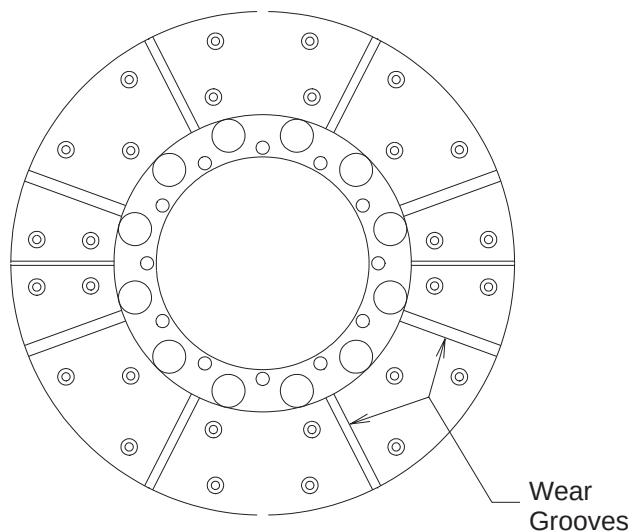

Fig. 7
- 4.2.1 On both single and multiple disc units, the friction material must be replaced when worn to the bottom of the groove on the friction lining. See Figure 7.